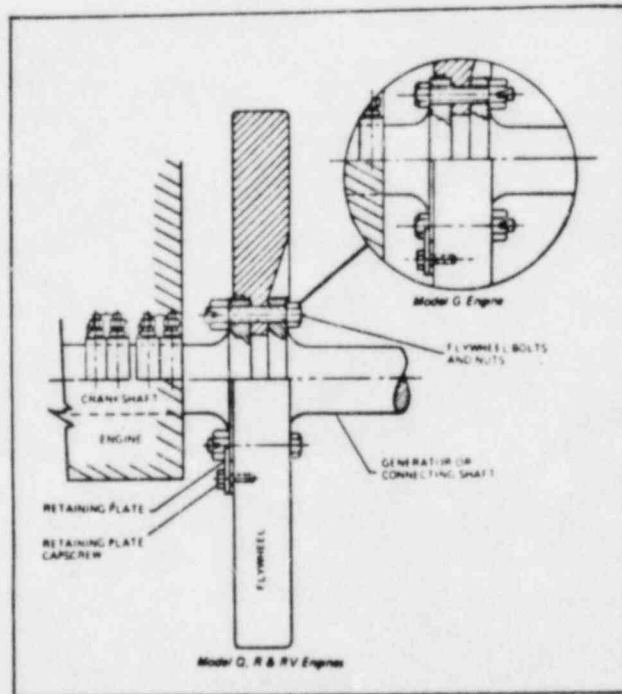

Figure 2-3. Flywheel Mounting
a. Apply a thin coat of anti-seize lubricant such as "Molykote" or "Lubriplate" to the mating surfaces of the flywheel and the flange, then mount the flywheel on the engine crankshaft flange. Make sure no dirt is allowed between the mating surfaces while the flywheel is being mounted. Install three retaining plates (see figure 2-3) and draw the flywheel up on the flange until it is seated.